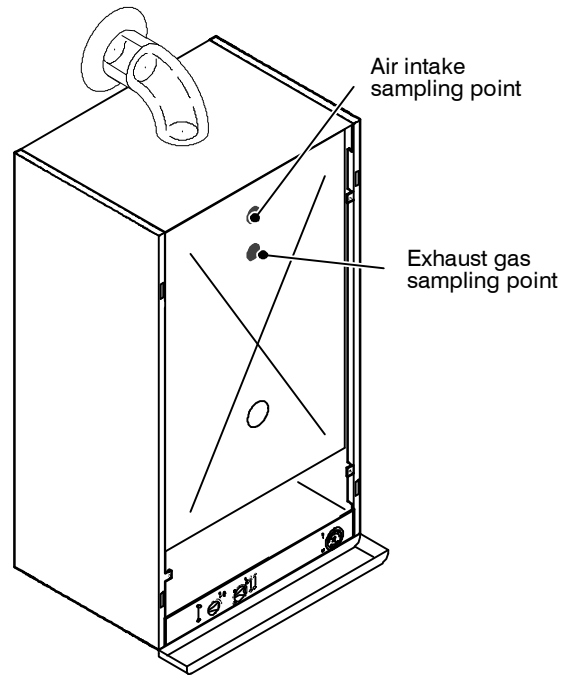

fig. 7.12
- 2 Remove the plugs indicated in fig. 7.12.